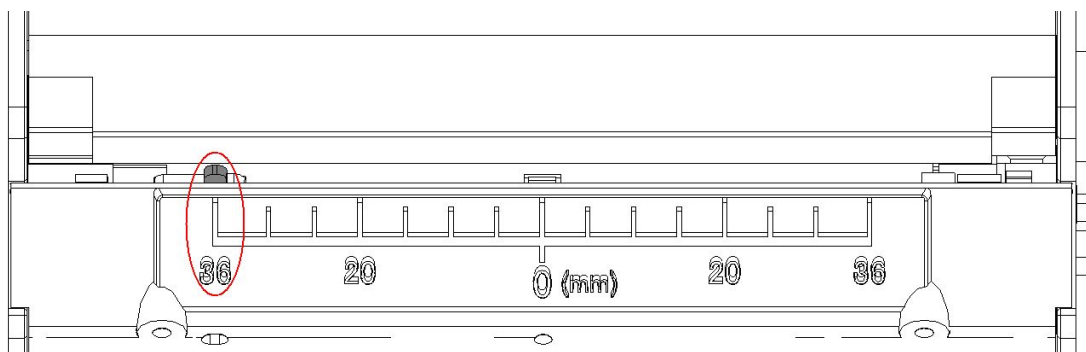

Figure 4.3-2 Indicating mark sensor position
- 2) The bulge that aligns with scale mark indicates the relative position of mark sensor to the center line of path as shown in the figure 4.3-2. Take out the cross screw driver when the sensor gets to the right position.